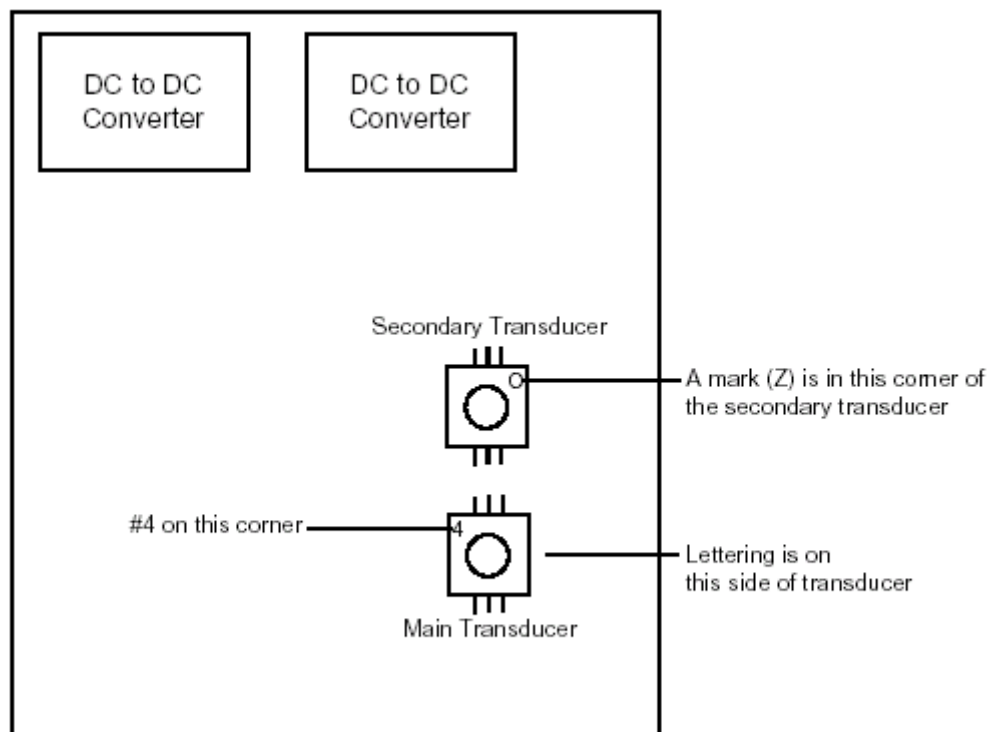

Figure 4-2. Pressure transducer replacement.
22. Install a replacement pressure transducer per Figure 4-2.